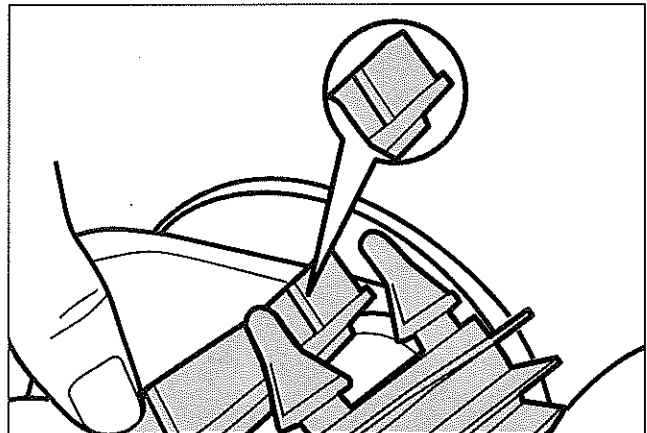

Figure 24. Wear Indicators
The cleaner is fitted with PVC brushes in front and rear. There are raised grooves that are "wear" indicators on the brushes located next to the tab connectors (see Figure 24). As brushes wear out, the raised groove will flatten and smoothen into the track. To maintain optimal cleaner performance, you should replace the brushes as soon as one of the wear indicators is smooth or worn down (even if the blade wear is not even). It is recommended that you replace the brushes every two (2) years.